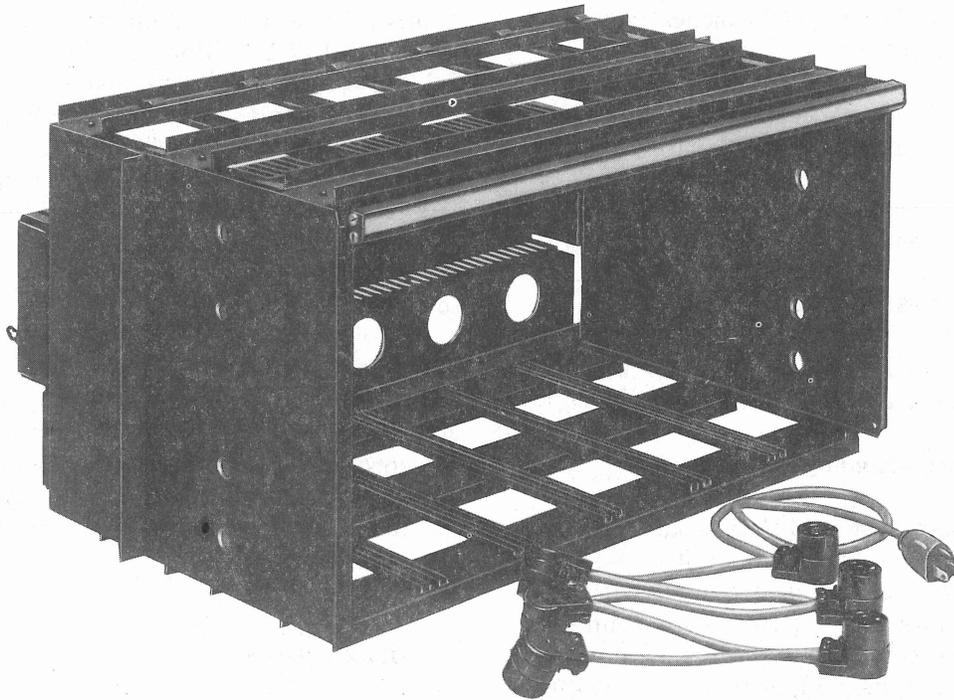

Fig. 2—Front View of 42A-Type Data Mounting
2.03 The 42A-type data mounting can be installed on 23-inch framework in equipment bays or cabinets. The data mounting measures approximately 23 inches wide, 15 inches deep, and 11-1/4 inches high. The weight of the data mounting is approximately 13 pounds with no data sets installed. A front view of the 42A-type data mounting is shown in Fig. 2.
1.02 This section is reissued to add information on KS-20018-L15A and -L17A cabinets and to update Fig. 2 to show the latest configuration of the 42A-type data mounting. Since this reissue constitutes a general revision, arrows normally used to indicate changes have been omitted.